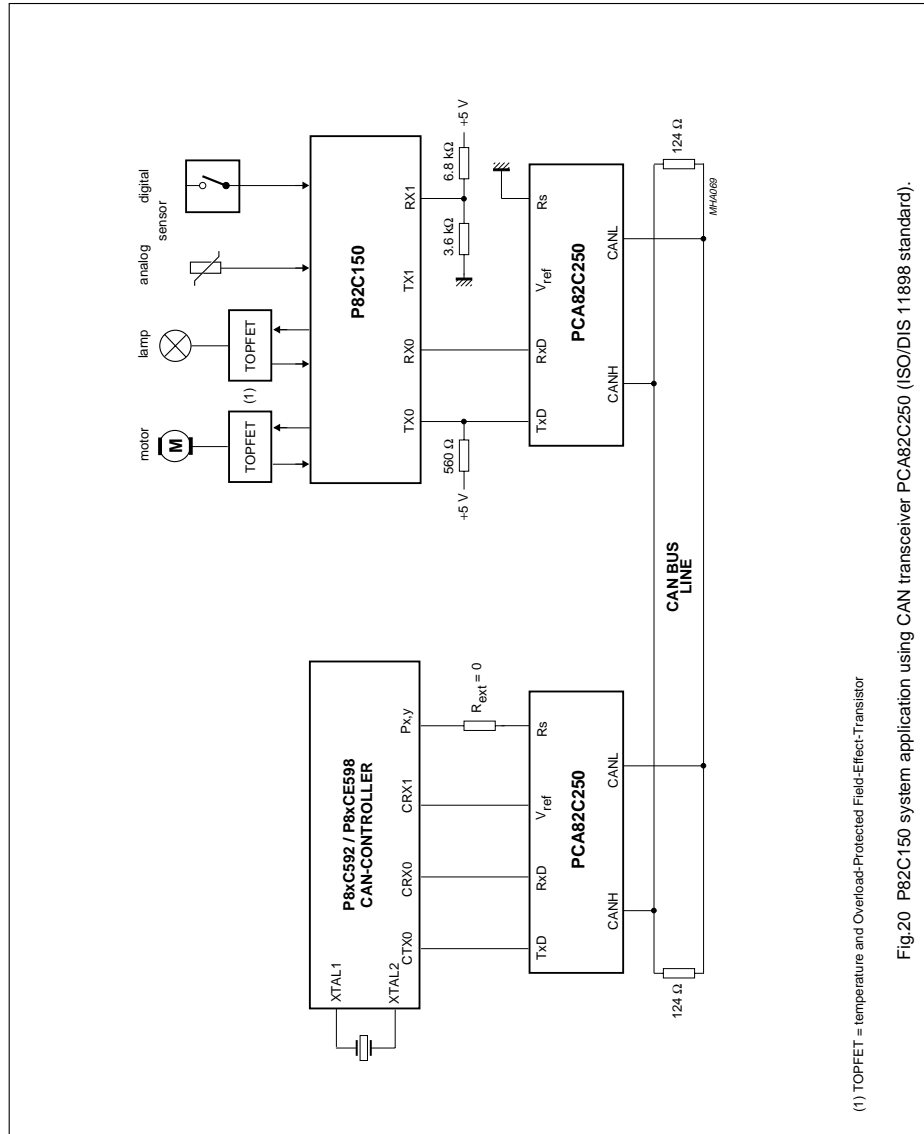

Fig.20 P82C150 system application using CAN transceiver PCA82C250 (ISO/DIS 11898 standard).
The bit timing parameters refer to using a P8xCE598 or P8xC592 microcontroller with on-chip CAN interface as a host node (see Fig.20).
- The total in/out delay of external transceiver circuit is less than 180 ns (e.g. PCA82C250 CAN transceiver; see Fig.20).